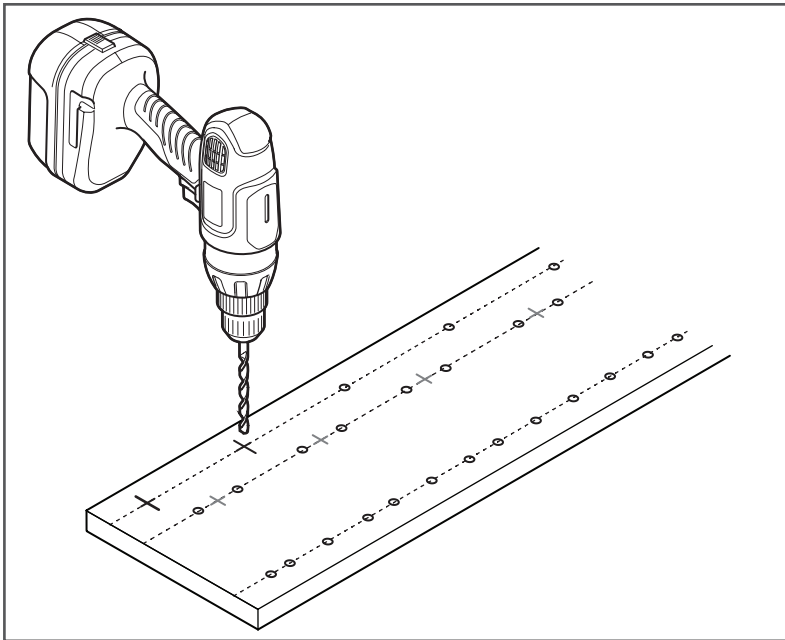

Figure 7
7. Drill out the marked holes using a drill with a 1/4" drill bit (Figure 7).